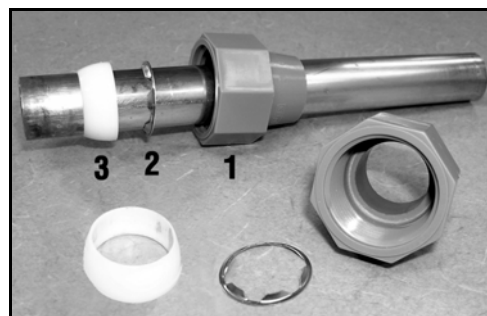

Figure 2: Qest Fittings
- B. Install Qest fittings. Qest connection fittings are provided with your appliance. Qest fittings provide a convenient, easy-to-use three-piece assembly for 3/4-inch copper plumbing or 3/4-inch CTS CPVC plastic tubing. Ensure that the three components (1: collar, 2: metal retaining ring, and 3: nylon sleeve) are correctly installed in sequence on the pipe. (See Figure 2.)